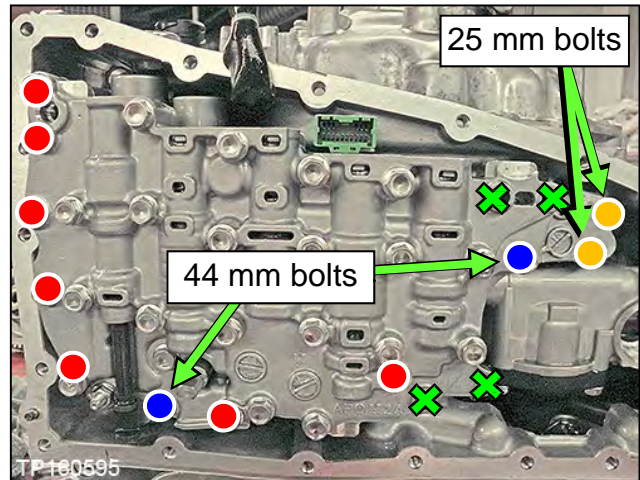
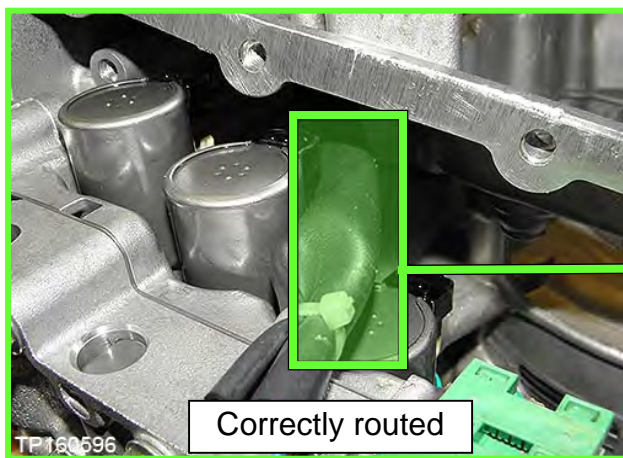
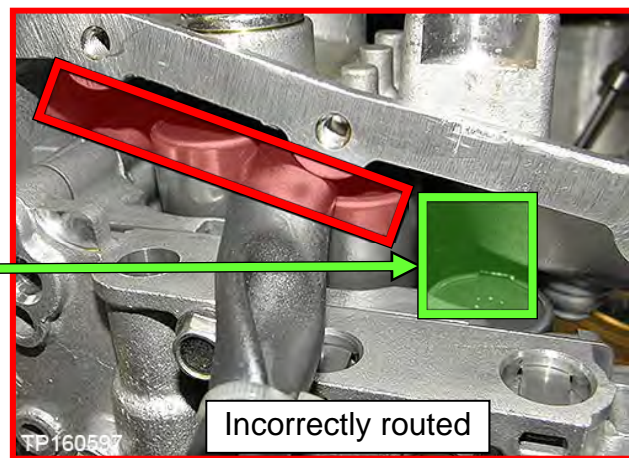

Figure 177
Figure 178
Figure 179
144. Install the Control Valve with eleven (11) mounting bolts (Figure 177).
**IMPORTANT:** Leave four (4) ✕ bolt holes blank at this step.
**CAUTION:** Make sure the wiring harness does not get pinched (see Figure 178 and Figure 179 for correct routing).